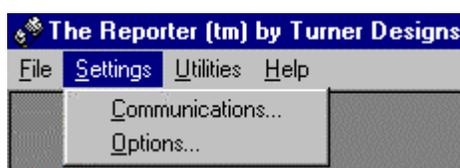

Figure 1
1. The software startup screen is shown in figure 1. There are four pull-down menus: File, Settings, Utilities, and Help.